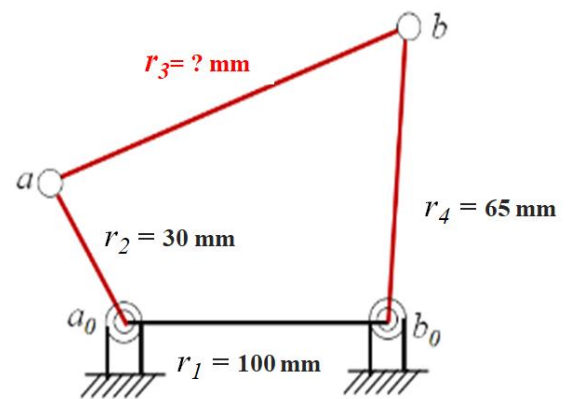

Fig. 3 4-bar mechanism
3. For the 4-bar mechanism shown in Fig. 3, crank 2 is to rotate continuously and link 4 is to oscillate. What are the maximum and minimum values in millimeters which can be used for the coupler length (l_3).